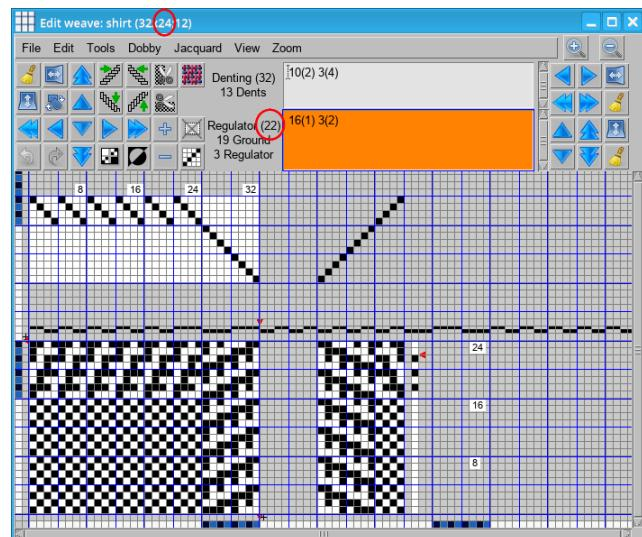

Figure 91: Repeat size of the regulator may be different than size of weave - red field warning
The repeat size of the regulator should not be bigger than the weave height; if it is longer than the weave height, then the weave height must be enlarged accordingly. The program gives you a warning if your regulator pattern does not divide the height of the weave - it draws the regulator field in red. If it divides, the regulator field is green. Figure 91 shows a weave, which has the repeat of 24 weft threads, but regulator repeat is 22 threads (sixteen plus six (16(1) 3(2))). The sizes are not the same, so the regulator field is displayed in red color.